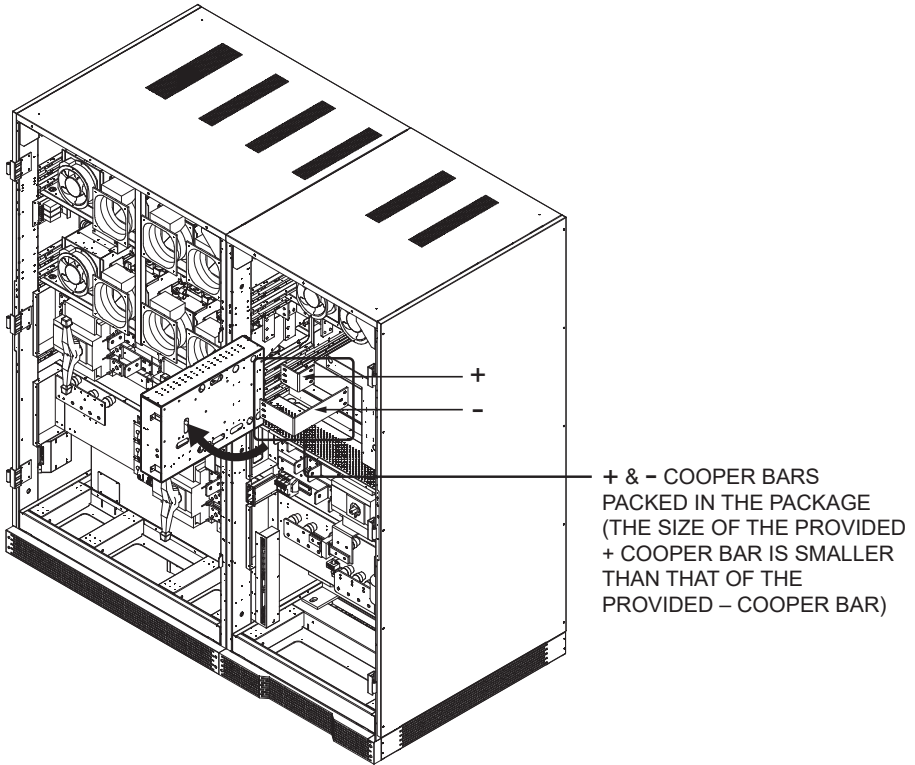

Figure 4-41
- (2) Take out the provided screws and + & - cooper bars from the package, and connect them to the rectifier's + & - bus bars shown in **Figure 4-41**. The size of the provided + cooper bar is smaller than that of the provided - cooper bar.